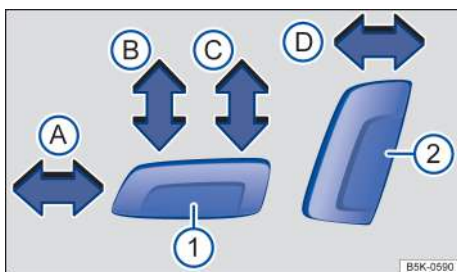

Fig. 66 Driver seat: Electrical controls to move the seat backward or forward, and adjust seat cushion height and backrest angle (if equipped).
Press the switch in the direction of the arrow → fig. 66:
- ① Adjust the lumbar support. Push the lever forward or pull it backward.
- ② Adjust the backrest angle. Lean forward and turn the adjuster wheel forward or backward. If the vehicle has an electrical control for adjusting the backrest angle, see → fig. 66 ②.
- ③ Adjust the seat height. Move the lever several times up or down.
- ④ Move the front seat forward or back. Pull the lever up and move the front seat. The front seat must lock in place after the lever is released!